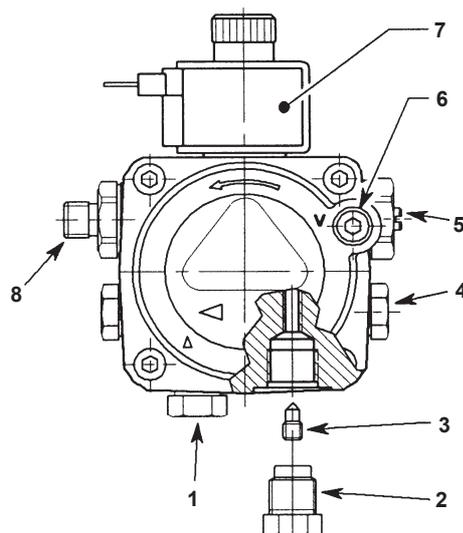

Fig. 9 - RDB pump
See Fig. 9
- 1 The fuel pump is supplied for use with a single pipe fuel supply system. For use on a two pipe system, it is necessary to fit the By-pass screw (see Fig. 9) into the tapping in the return port.
- 7 Flexible fuel lines and adaptors are available to purchase from Grant Engineering (UK) Limited.